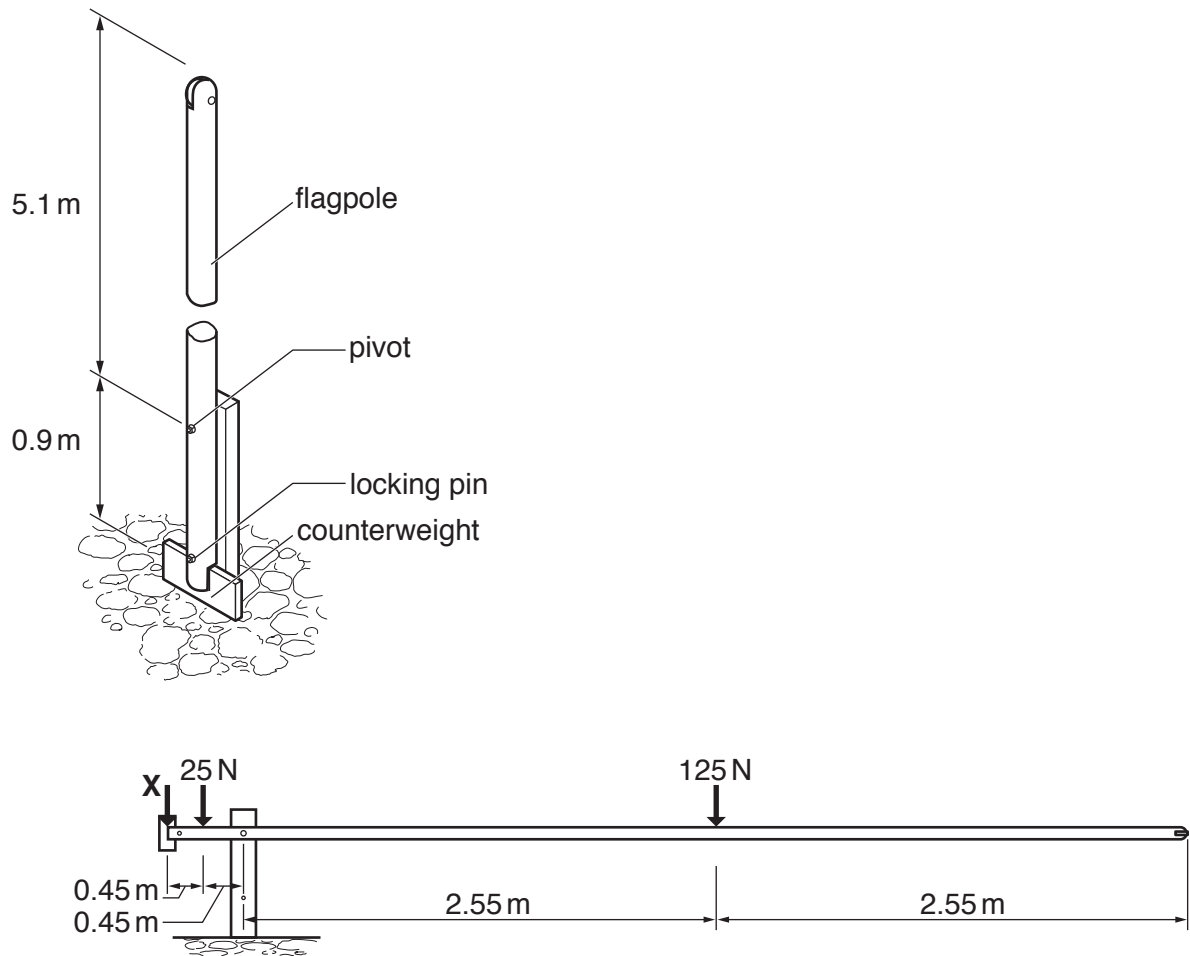

Fig. 7
- (iv) Fig. 7 shows the flagpole in the raised and lowered positions. To lower the flagpole the locking pin is removed and the flagpole rotates about the pivot.